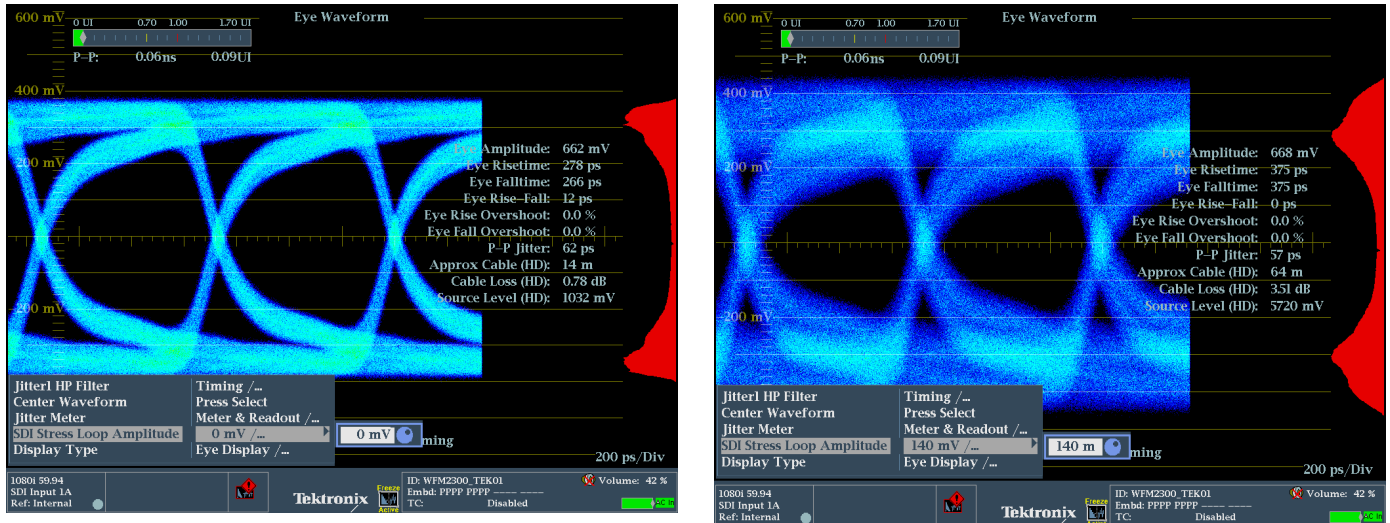

Figure 6. SDI Stress Loop Amplitude with varying amplitudes.
3. Using the up and down arrows to navigate to **SDI Stress Loop Amplitude** and press right arrow to select the sub menu as shown in Figure 6.